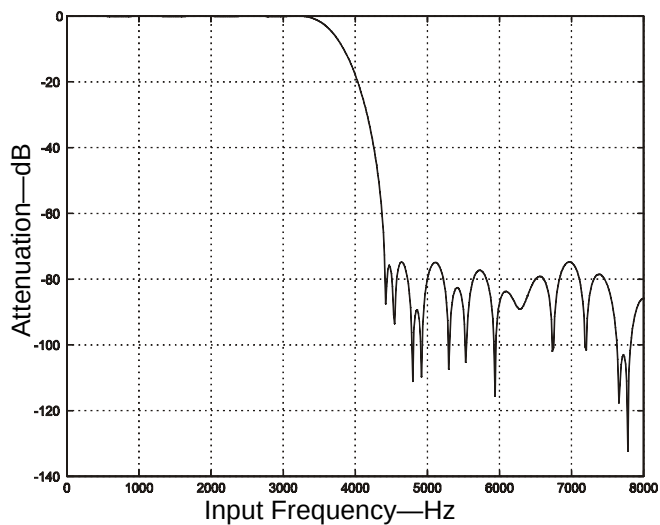

Figure 6. FIR Receive Filter Response
**Note:** Typical FIR filter characteristics for Fs = 8000 Hz are shown in Figures 6, 7, 8, and 9.
For Figures 6–9, all filter plots apply to a sample rate of  $F_s = 8$  kHz. The filters scale with the sample rate as follows: